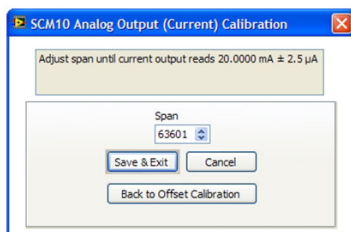

Figure 6.9
3. Adjust the value of the Offset DAC until the reading on the DMM is 4mA $\pm 2.5\mu\text{A}$. Click “Continue to Span Calibration”. This displays a screen similar to Figure 6.9.